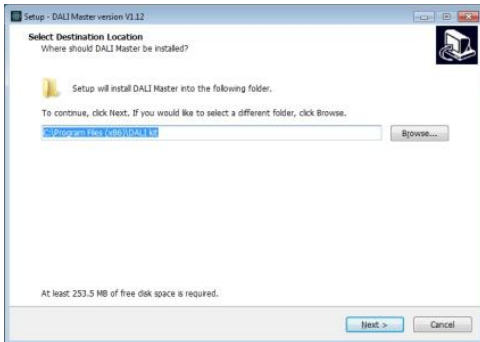

Figure 3 Installation Path
Step 3: Select installation path as shown in Figure 3.